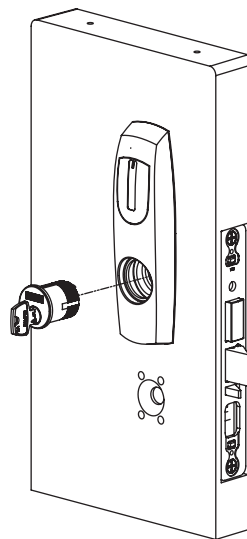

Fig. 8B
2. Withdraw the key about 25% out of the cylinder before inserting into the escutcheon (Fig 8B).